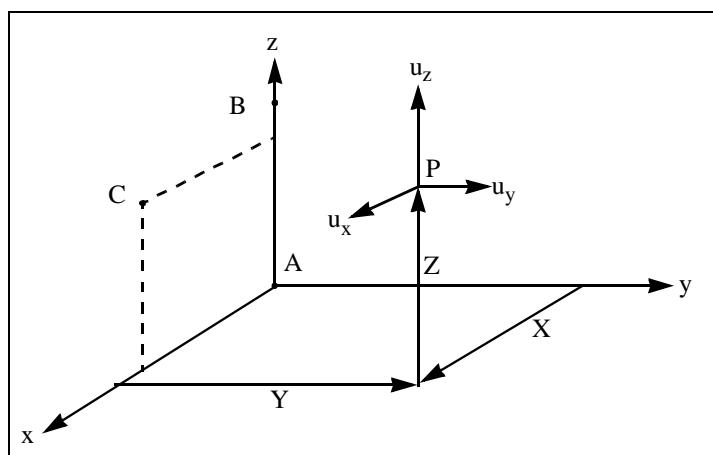

Figure 4-15 CORD2R coordinate system
6. The displacement components at P are given by  $(u_x, u_y, u_z)$ , as shown in Figure 4-15.